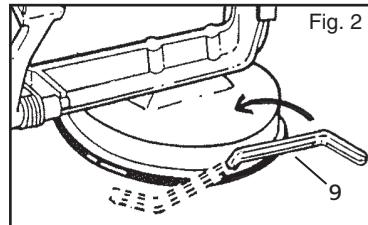

Fig. 2
3. The apple peeler mounts onto the work surface using the suction base. See fig. 2.
- a. Push the lever (9) completely to the right.